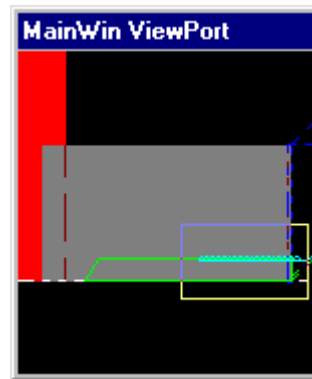

Fig. 5
- ◆ **Hold the left button** of your mouse and **drag it** to frame the area to be zoomed. [Fig. 5]